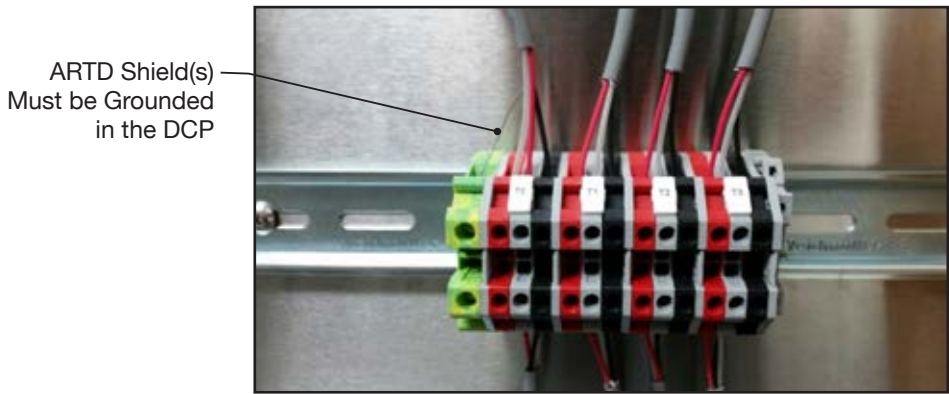

Figure 9: ARTD Wiring Connections in DCP
- c. Connect the terminal blocks labeled *T0-A*, *T0-B*, etc., in the control panel to the ARTD using UL-Listed 22 AWG Three Strand Shielded Communication Cable (*Figure 9*). Connect the black lead on the monitor to the red wire leading to the DemandAire control panel. Connect one of the brown leads on the monitor to the black wire leading to the control panel and connect the other brown lead on the monitor to the white wire leading to the control panel (*Figure 9*).